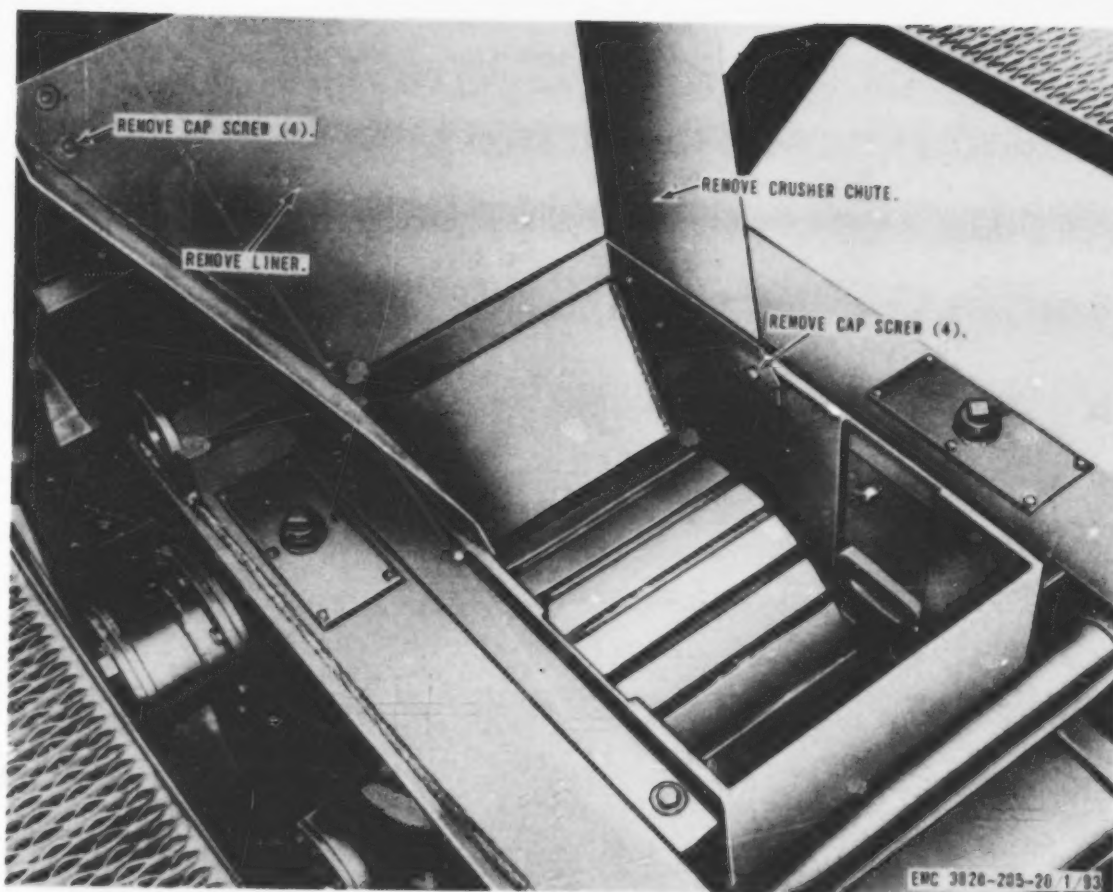

Figure 99. Crusher chute and liner, removal and installation.
a. Removal. Remove the crusher chute and liner from the unit as instructed on figure 99.
c. Installation. Install the crusher chute and liner on the unit in reverse of the instructions on figure 99.